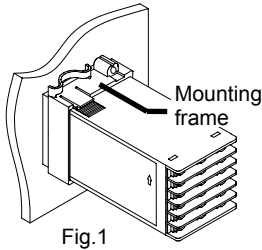

Fig.1
- (1) Prepare the panel cutout as specified in 2.2 Dimensions.
- (2) Insert the instrument through the panel cutout.
- (3) Insert the mounting frame into the mounting from the rear of the instrument.
- (4) Push the mounting frame forward until the frame is firmly secured to the panel. (Fig.1)